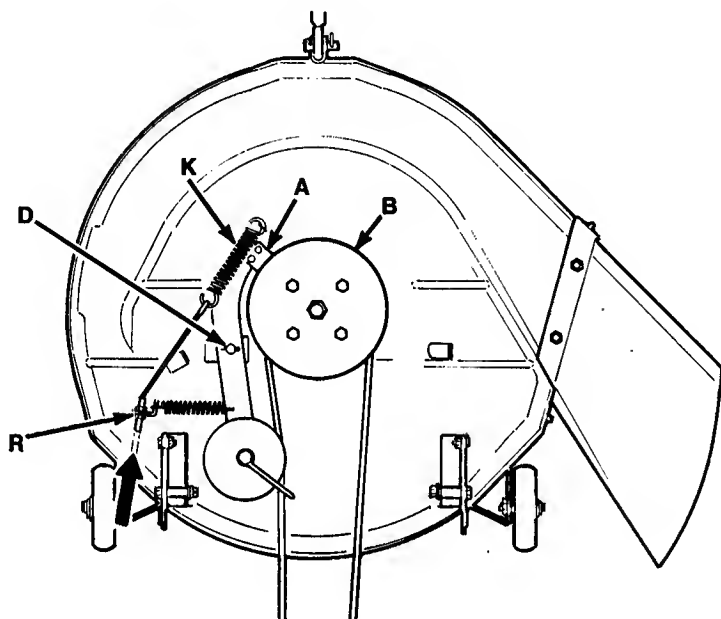

Fig. 46
2. Adjust cable and spring (K, Figs. 46 & 48) at nuts (R, Figs. 46 & 48) until all slack in spring (K, Fig. 46) has been taken up. *WHEN ADJUSTED, SPRING (K) SHOULD NOT BE UNDER TENSION*
3. If brake pad (A, Fig. 46) is not centered in pulley (B), Adjust idler arm pivot (D) as necessary, by re-locating washers at pivot.
4. If blade still does not stop within 5 seconds after the mower drive has been disengaged, replace brake pad (A).